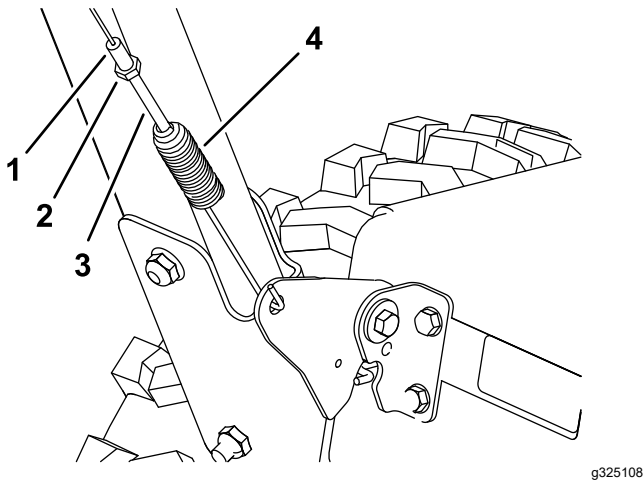
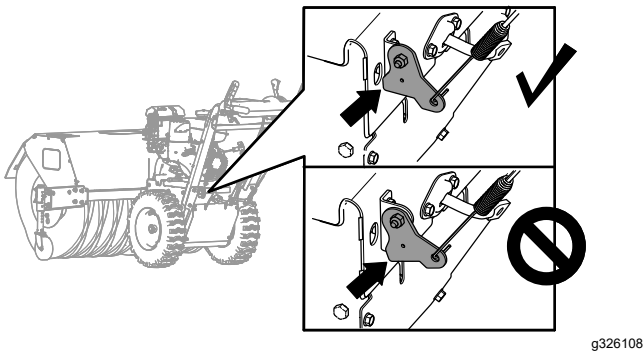

Figure 34
Figure 35
1. Loosen the jam nut (Figure 34).
2. Rotate the spring-tension adjuster until the cable is taught (Figure 34) and the bottom of the bracket touches the top plate of the machine (Figure 35).
3. Tighten the jam nut (Figure 34).